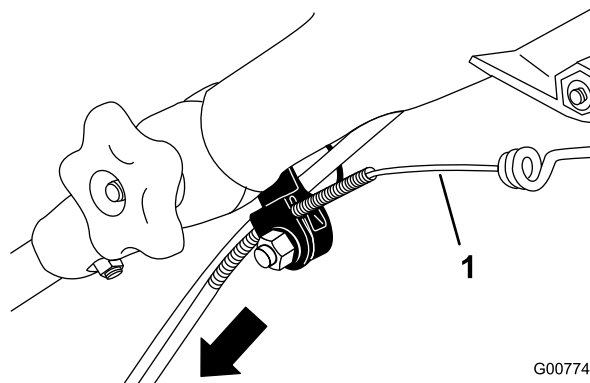

Figure 21
3. Pull the cable jacket downward until you remove the slack in the exposed cable (Figure 21).